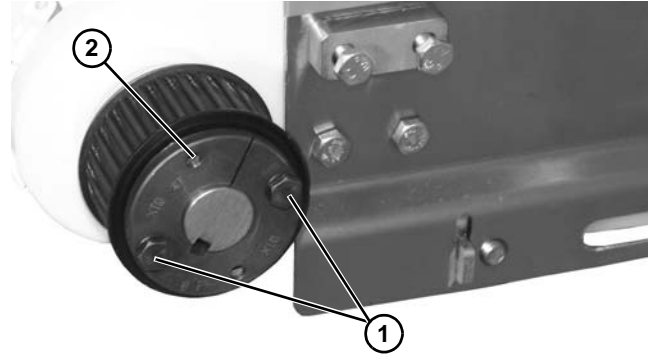

Figure 18
2. Remove taper-lock screws (Figure 18, item 1). Insert one of taper lock screws in remaining hole (Figure 18, item 2). Tighten screw until pulley is loose. Remove pulley and taper hub assembly.